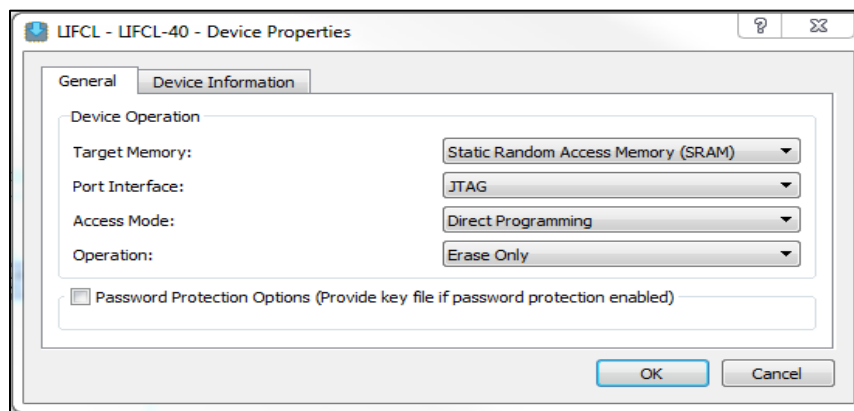

Figure 4.5. Lattice Radiant Programmer – Device Operation
5. Select **JTAG** for **Port Interface**, **Direct Programming** for **Access Mode**, and **Erase Only** for **Operation**, as shown in Figure 4.5.